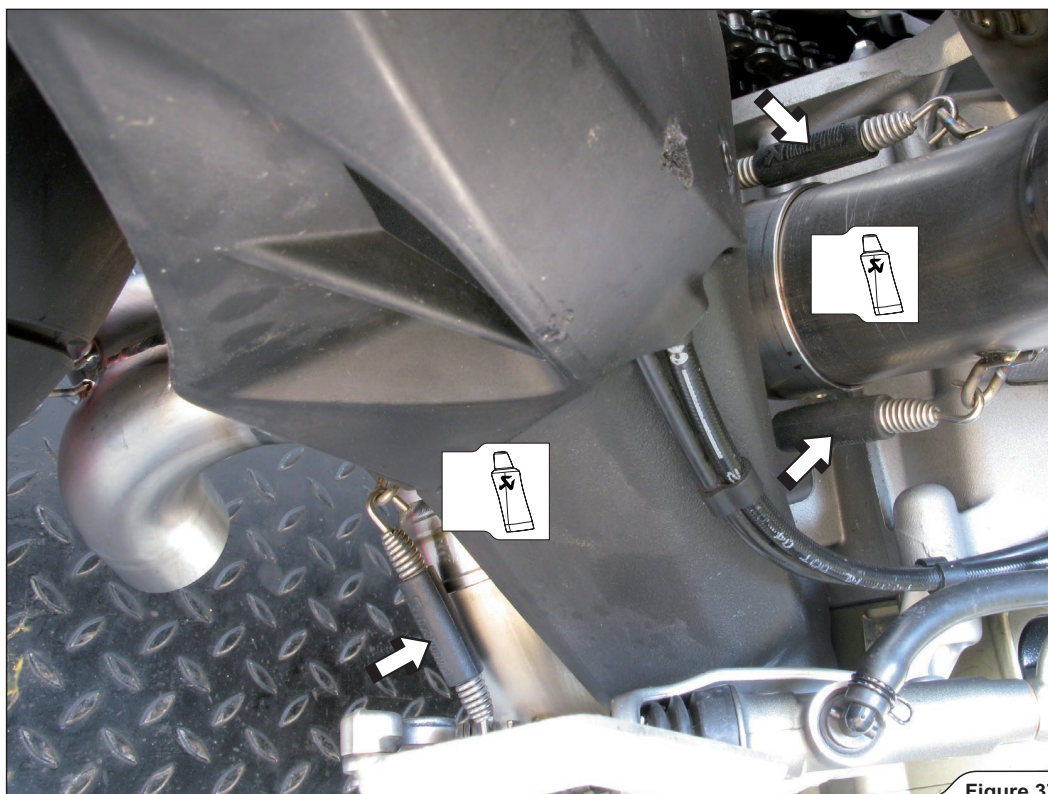

Figure 37
9. Slide the collector onto both link pipes and attach the springs (Figure 37).